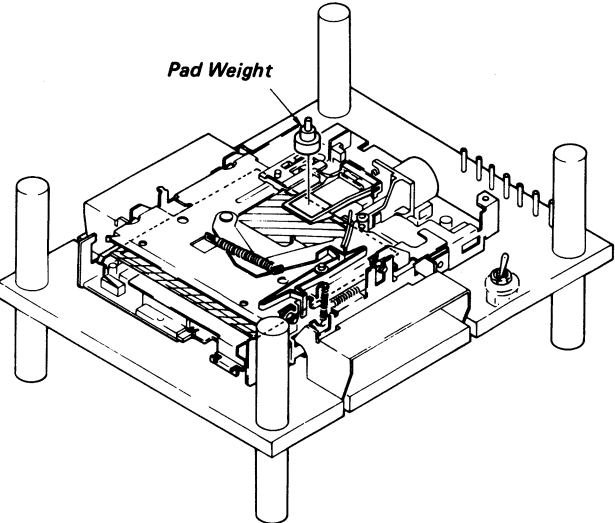

Fig. 5-2 Head Compliance Measurement
- c. Move the head until it arrives at TRK79, and then pad weight is loaded on head carriage ass'y as shown in Fig. 5-2.